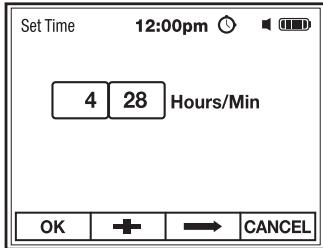

Fig. 28
2. Use the F2 + soft key to set numeric value (highlighted in red), (Fig. 28).
3. Use the F3 → soft key to select Hours or Minutes (Fig. 28).
4. Press the F1 OK soft key to save setting and return to Date/Time Menu (Fig. 28).